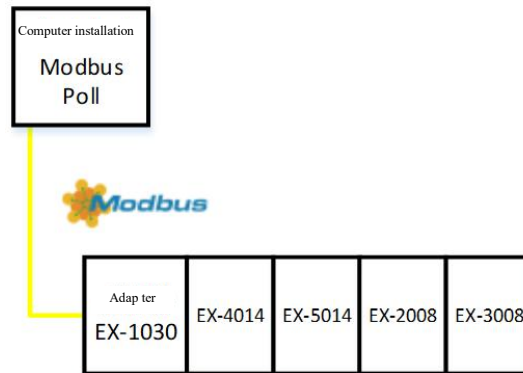

Figure 5-6-3 Communication connection diagram
1. Communication connection diagram, as shown in Figure 5-6-3.